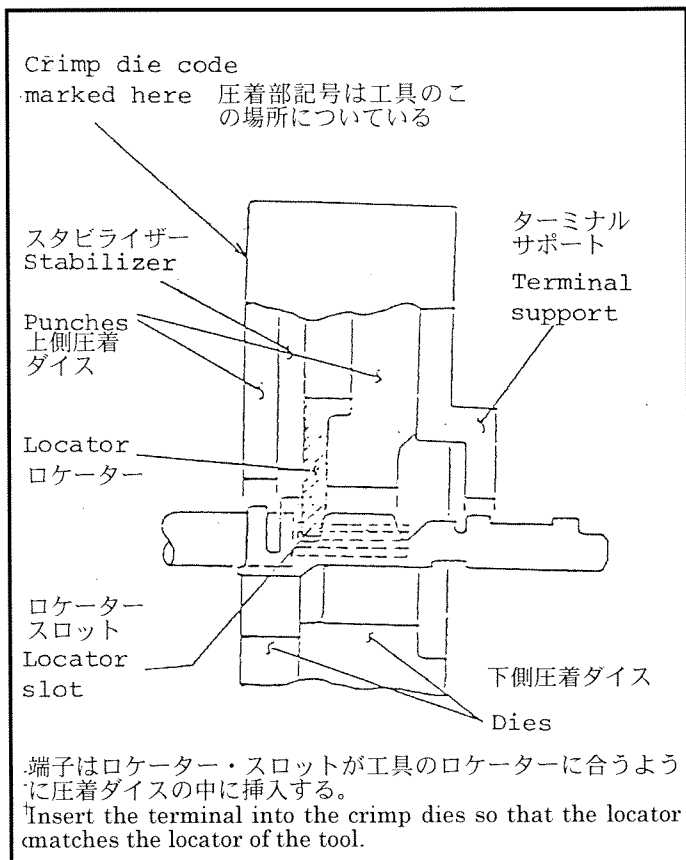

Fig. 3
- Hold the tool so that the side of the tool on which the wire the wire sizes are stamped faces up. Insert the contact into the crimp dies as illustrated in Fig. 3.
(Refer to Fig. 3.)